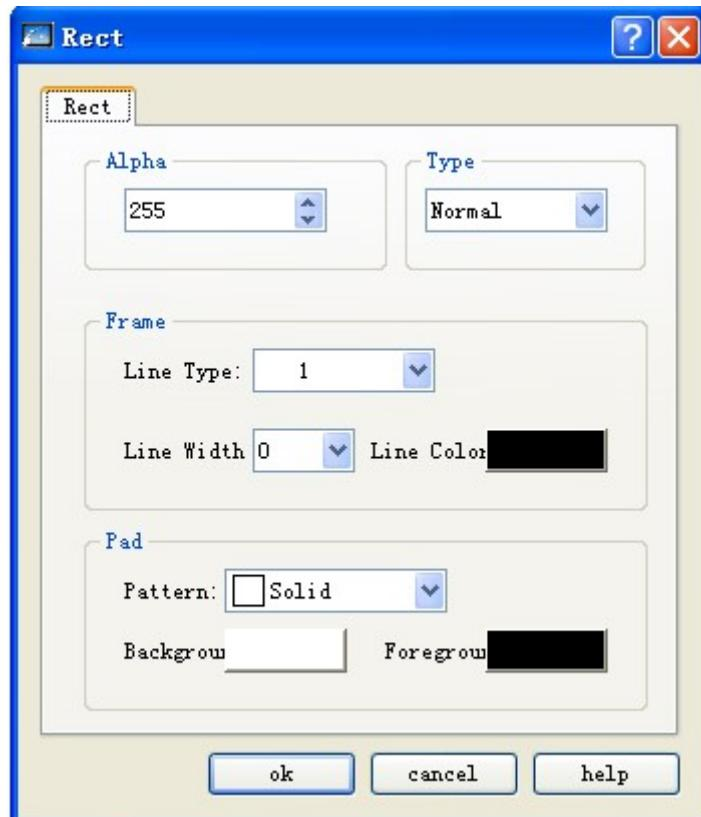

Figure 4-29: Rectangle properties dialog
- After completing the above steps, the rectangle has default settings in transparency, line type, line width, line color, and filling pattern. You can modify these settings basing on actual needs. To do this, move the mouse onto the rectangle and double click, or click Properties button in the tool bar after choosing the rectangle. At this moment, a property dialog as shown in Figure 4-29 will appear.